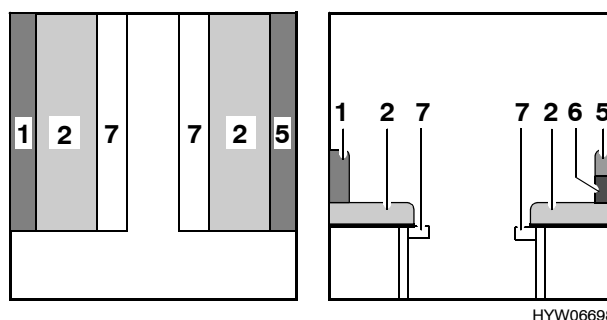

Fig. 41 During conversion
- Pull out slatted frame (Fig. 41,7).
- Remove the back cushion (Fig. 41,1) and lay it aside.
- Remove the back cushion (Fig. 41,5) from the back cushion (Fig. 41,6).
- Lightly lift up the two seat cushions (Fig. 41,2) and pull them on the slatted frame (Fig. 41,7).